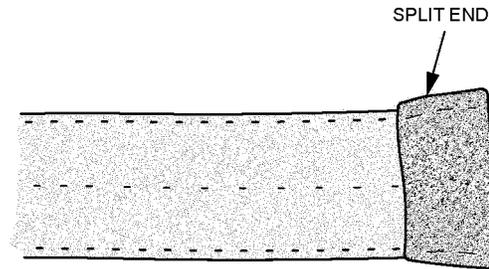

Figure 4. Split End
- a. Using hot knife, cut split end off free ends of chest and leg adjustment straps (Figure 4).